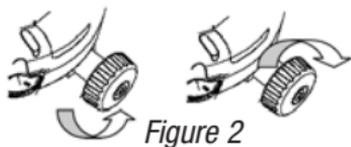

Figure 2
4. Level the vial with the leveling knob (fig. 2).